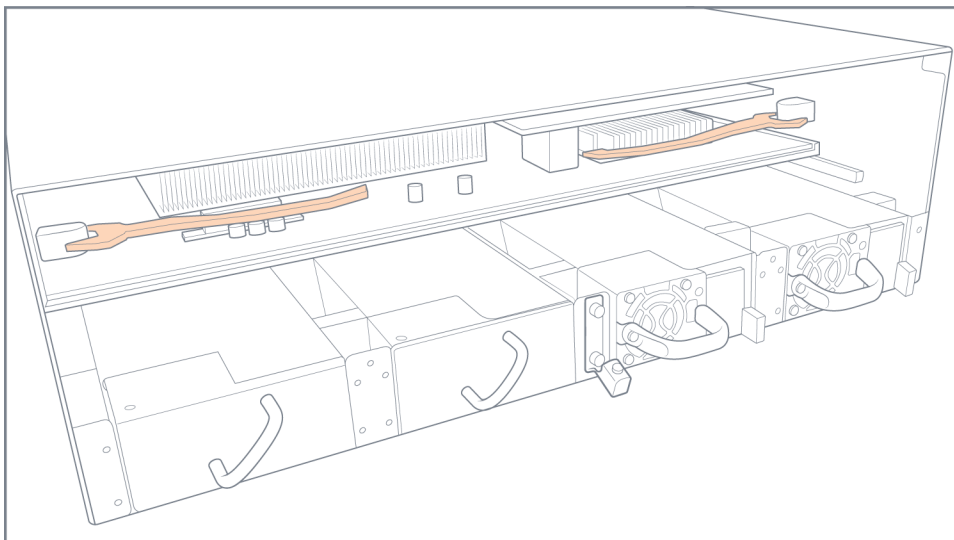

Figure 22 Control Card Seated
3. Seat the control card, as shown in Figure 22 Control Card Seated.